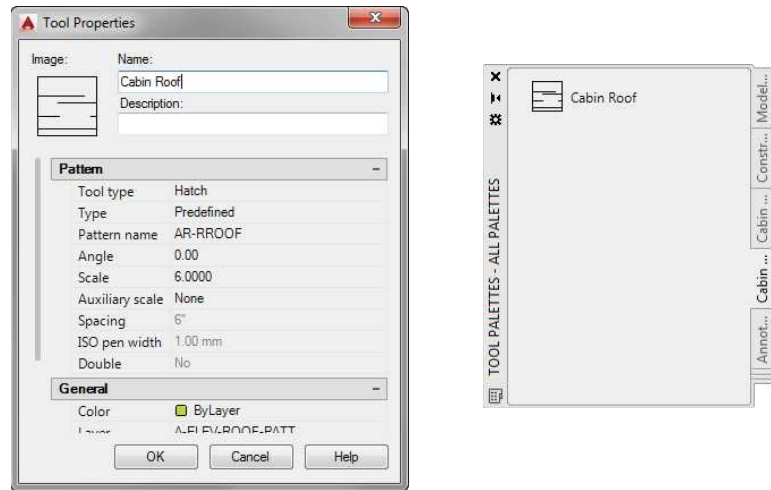

FIGURE 11.33: Renaming the AR-RROOF tool (left) and the Cabin Hatches palette after the first hatch is renamed (right)
7. Change the name from AR-RROOF to Cabin Roof, as shown on the left in Figure 11.33.
10. Click OK to close the dialog box and update the palette (see the right side of Figure 11.33).